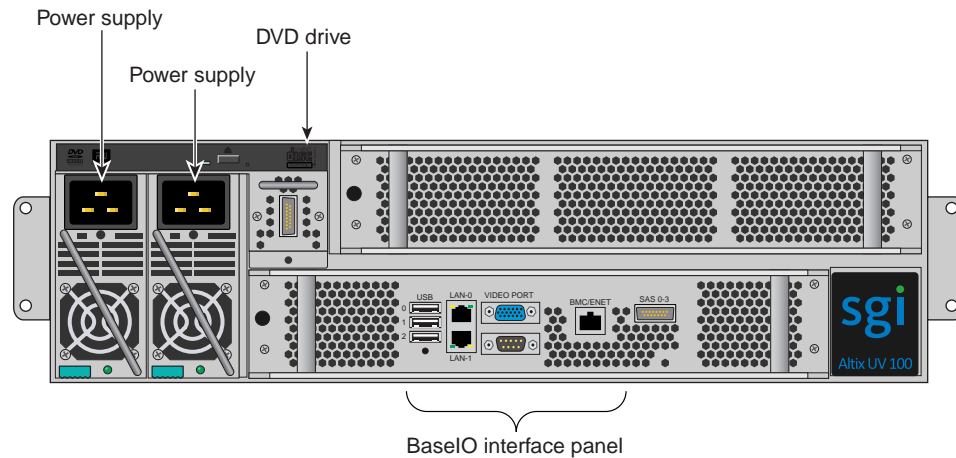

Figure 3-5 Altix UV 100 IRU Front Components
- **Individual Rack Unit (IRU).** This 3U high enclosure contains two power supplies, one or two compute/memory blades, BaseIO and other optional riser enabled blades for the Altix UV 100. Figure 3-5 on page 44 shows the Altix UV 100 IRU front components.